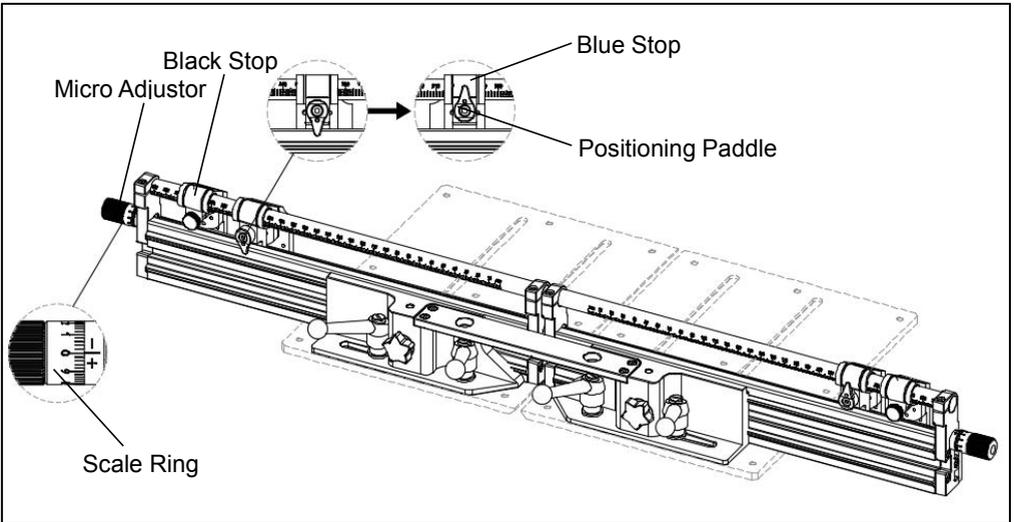

Fig. 6
- As shown in Fig. 6, rotate the positioning paddle until the paddle tip faces down, then the blue stop will be engaged with the lead screw. When the paddle tip is faced down, the blue stops can be micro-adjusted by rotating the blue micro-adjustor knob. One rotation of the knob will move the blue stops in increments of 0.02mm (Metric - millimeter) or 0.001" (Imperial - inches). To quickly traverse the blue stop, rotate the positioning paddle tip to a face up position and flip the blue stop up, which will disengage the stop from the lead screw and allow you to freely slide the blue stop.